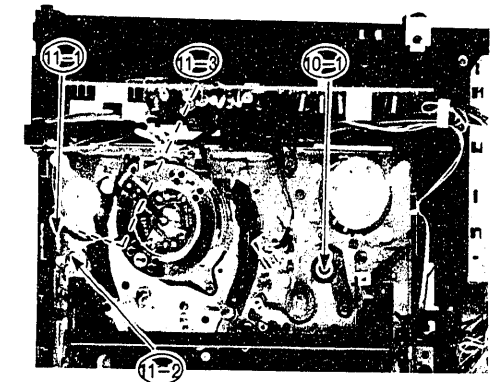

Fig. 29 Pressure Roller, Impedance Roller
11. Pressure Roller (Fig. 29)
12. Impedance Roller (Fig. 29)